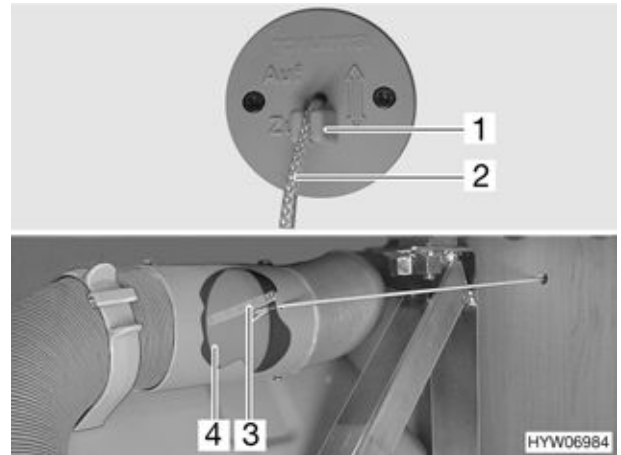

Fig. 133 Branch block
The hot air distribution to the alcoves can be opened or closed by the branch block (Fig. 133).
- Pull out the string (Fig. 133,2) until you feel slight resistance and then secure the string in the clamp (Fig. 133,1).
The flap (Fig. 133,4) is closed.
- Release the string (Fig. 133,2) from the clamp (Fig. 133,1) and feed back slowly.
The flap (Fig. 133,4) is opened by the spring (Fig. 133,3).